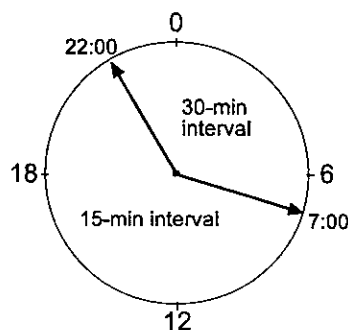

Figure 20: Clock setting example
- Step 4** Select the Time field. Enter the current time. Use military time to set the clock. See Figure 20.